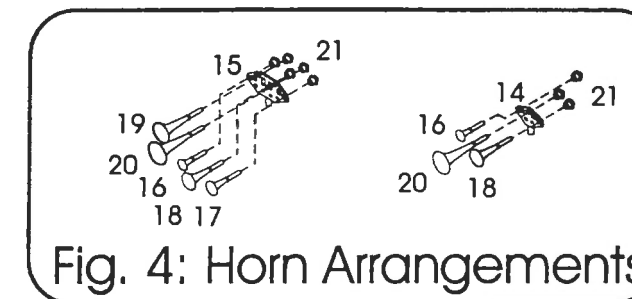

Fig. 4: Horn Arrangements
holes from prototype information. Drill the necessary holes using a #65 drill. (See Figure 4 for alternate horn assembly options.) When installing the two large **Single Bell Horns** (13), refer to prototype data to determine their orientation. In some cases both **face forward**, while in others both **face forward** and one towards the rear of the locomotive.